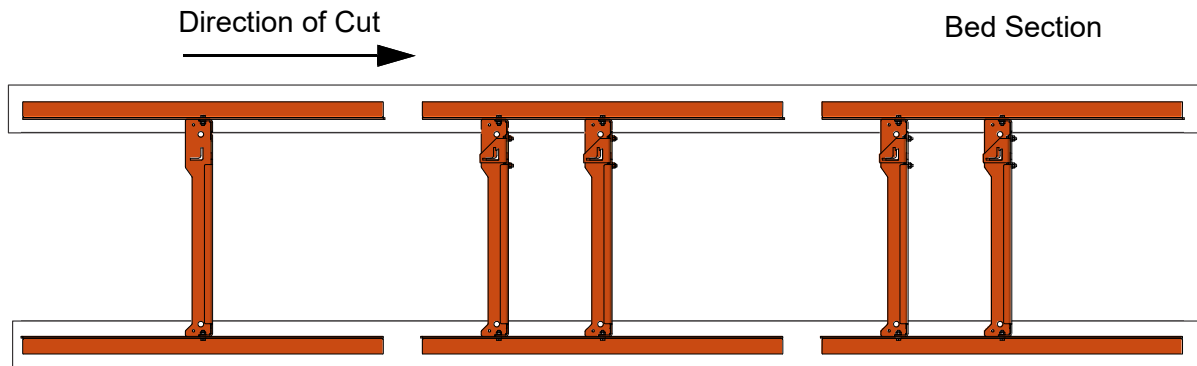

FIG. 2-4
- Position all three assembled bed sections end-to-end in the order shown on the figure 2-4.
See figure 2-4.